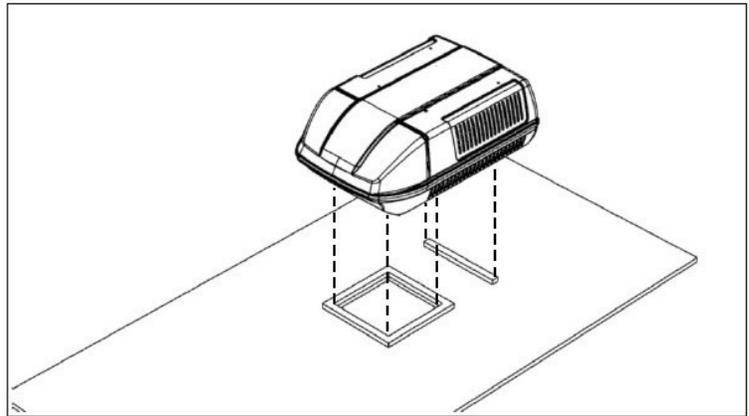

Fig 6- Position the unit over the roof gasket and set down gently.
- Position the unit over the gasket so that the corners of the square hole in the RV roof line up with the corners of the square hole underneath the air conditioner (Fig 6).
- Mating and un-mating the completed connector is illustrated in Figure 6.